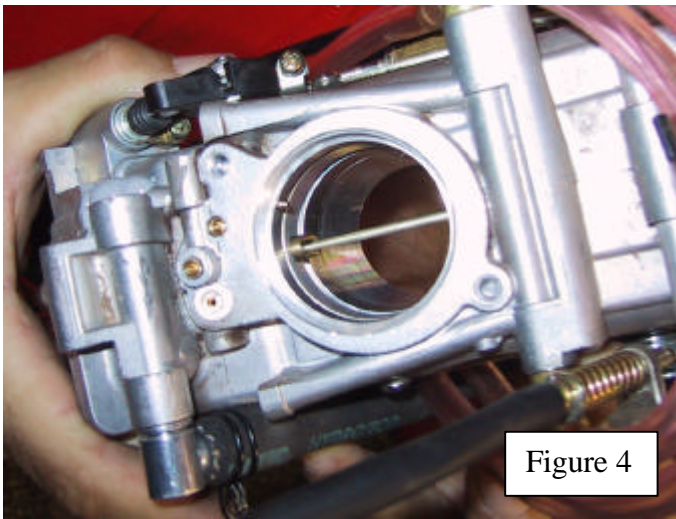

Figure 4
- d. Hammer gently the jet until it reaches the bottom of its seat (see figure4 and 5);